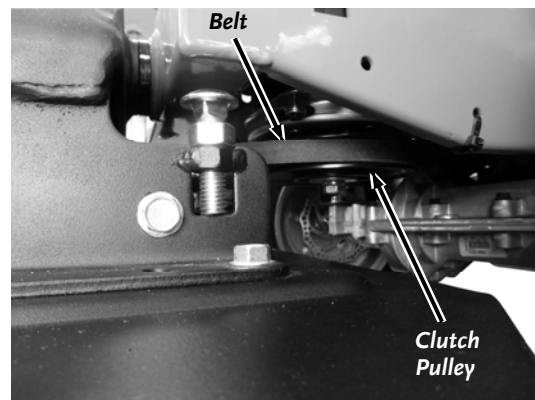

Figure 40
3. Push the belt in toward the Power Unit and the belt will fall off the Clutch Pulley (*Figure 40*).
6. Wrap the Belt around the Clutch Pulley under the Power Unit (*Figure 40*).